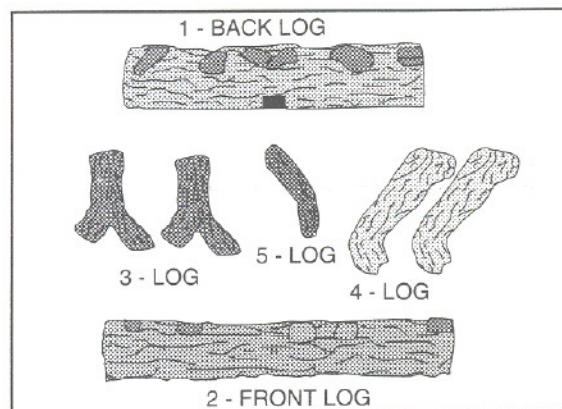
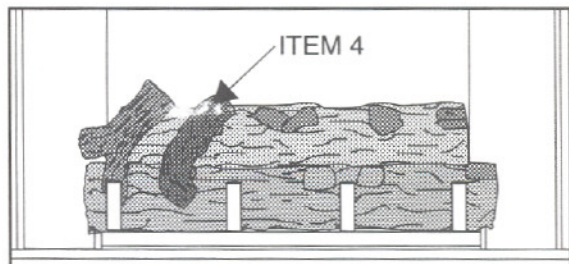

Figure 22A
Figure 27
5. See Figure 27. One of the "hooked" Logs (Item 4) is installed next. See Figure 22A for identification. The "hooked" portion of the log will rest on the Front Log on the indentation next to the "Y" log. The "straight" portion of the log will rest on the Back Log's second indentation.